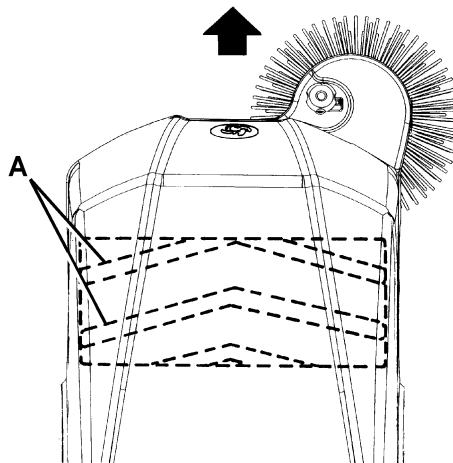

Figure 7
10. The new main broom must be installed with the bristles rows (A, Fig. 7) bent as shown in the figure.